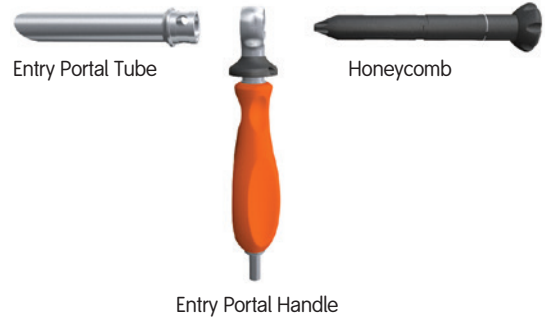

Figure 3
1. Assemble the Honeycomb (71674075), Entry Portal Handle (71674092), and Entry Portal Tube (71674060) (Figure 3). The pieces will lock in place securely at either 0° or 180°.